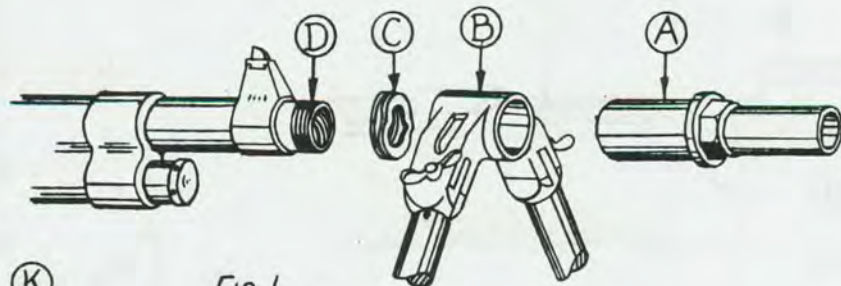

FIG. 1
- 4 UNSCREW FLASH HIDER (A), FIG. 1. REMOVE THE BIPOD (B) FROM THE FLASH HIDER (A) AND THE FRICTION WASHER (C) FROM BARREL (D).